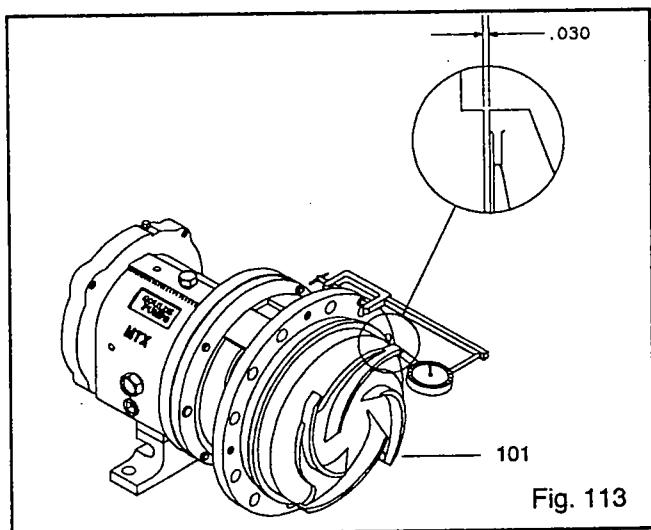

Fig. 113
7. Check impeller (101) runout. Check vane tip to vane tip. If total indicator reading is greater than 0.005 in. (.13 mm), determine cause and correct before proceeding (Fig. 113).